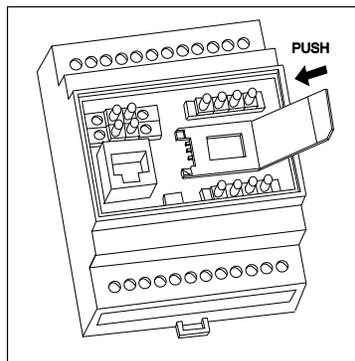

Figure 7.1.3
- Insert the SIM card into the holder so that the notches align (see the *Figure 7.1.3*). If you want to remove and already installed SIM you can remove it now.